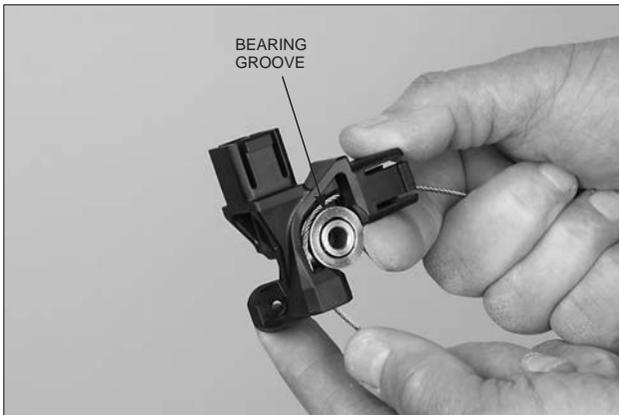

FIGURE 5-74
5. Place the bearing against the wire rope. Make certain wire rope is in the bearing groove. See Figure 5-74.